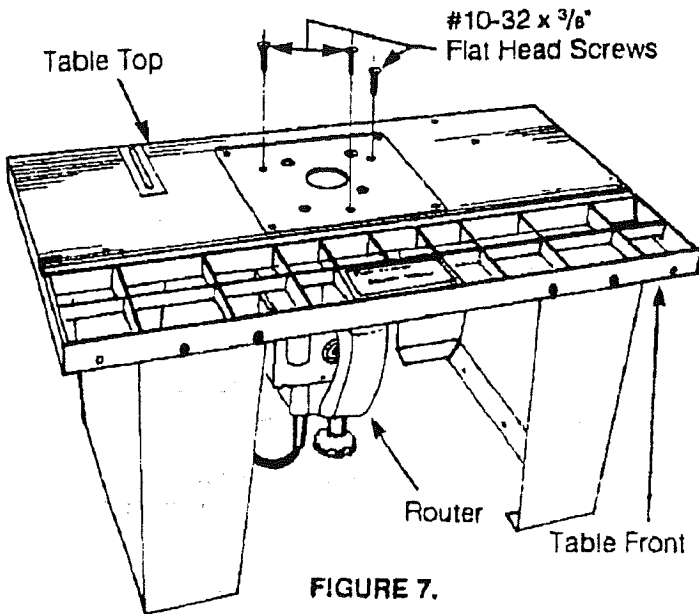

FIGURE 7.
4. Insert three #10-32 x 3/8" long flat head machine screws (provided) through holes in the throat plate and tighten securely into the router base. See Figure 7.